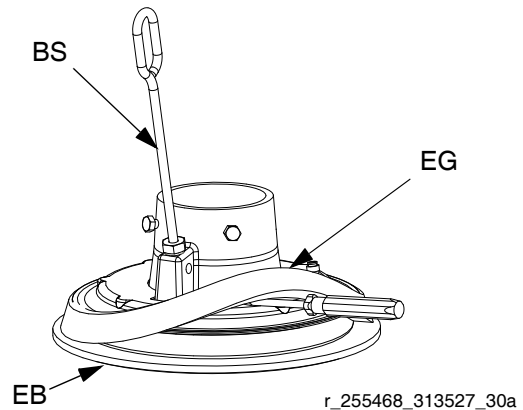

FIG. 15
1. *Working from the bottom*, use a screwdriver to pry the spacer (EG) loose. Work the spacer upward completely above the flange of the platen. See FIG. 15.